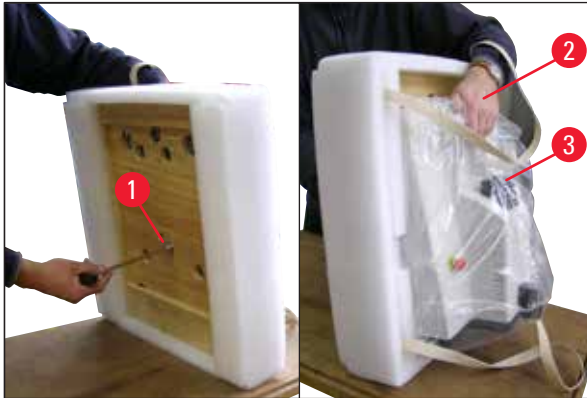

Fig. 5
- Tilt the instrument including the baseplate (→ Fig. 5) - hold the instrument with one hand on the recess (→ Fig. 5-2) for the buffer tray! NEVER lift or hold it by the cutting head (→ Fig. 5-3)! Unscrew the screw (→ Fig. 5-1) using the size 8 Hexagon key provided and remove the base plate.